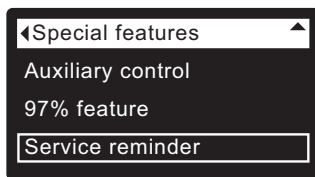

FIG. 99
1. From any of the rolling status screens, press the SELECT (O) button to display the **Main menu**.
3. Press the SELECT (O) button to display the Advanced settings menu.
5. Press the SELECT (O) button to display the Special features menu (See Figure 99).
9. Press the SELECT (O) button. The display will go back to the Special features menu (Figure 99).